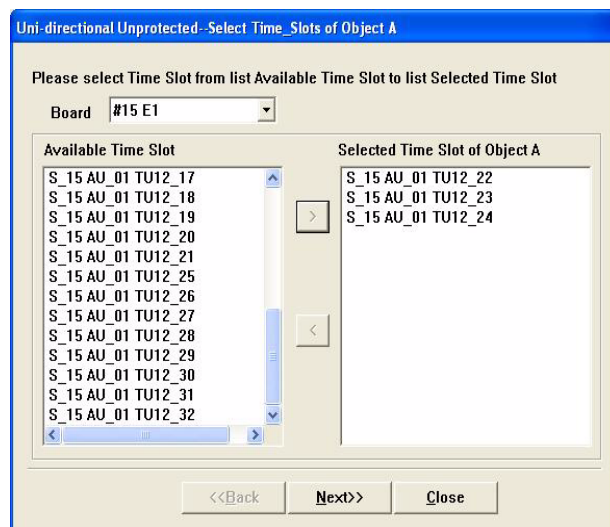

Fig. 4-4-12 Setup-Others Dialog Box
- 1 Confirm that the **Setup-Others** dialog box shown in *Fig. 4-4-12* is displayed: